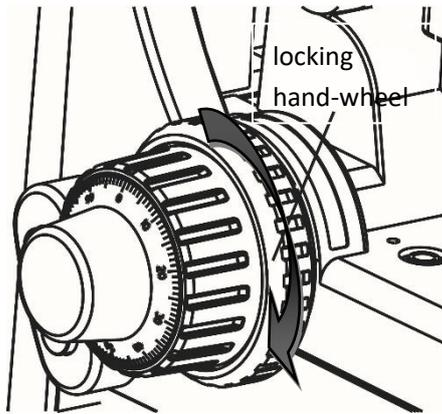

Fig.10
### 3-9 Focusing upper limit (Fig.10)
- Actually, if you want to restrict locking of stage height (The upper limit of focus) as appropriate, just turn the locking hand-wheel in the direction of the arrow (as shown in Fig.10) at the corresponding upper limit position.